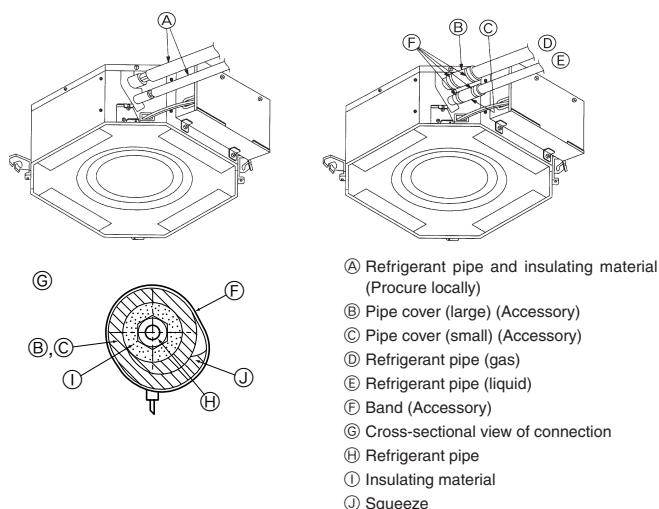

Fig. 5-9
5.4. Pipe connection (Fig. 5-9)